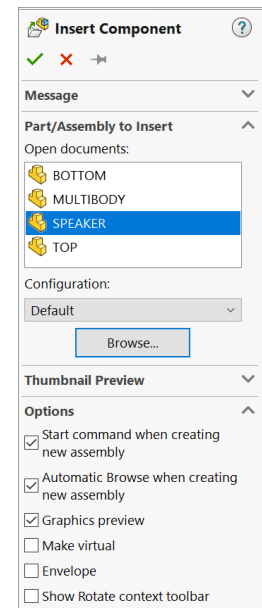

Fig. 2
Step 3. Rotate view to view **inside of grill**, hold down middle mouse button (wheel) and drag to rotate view, **Fig. 2**.